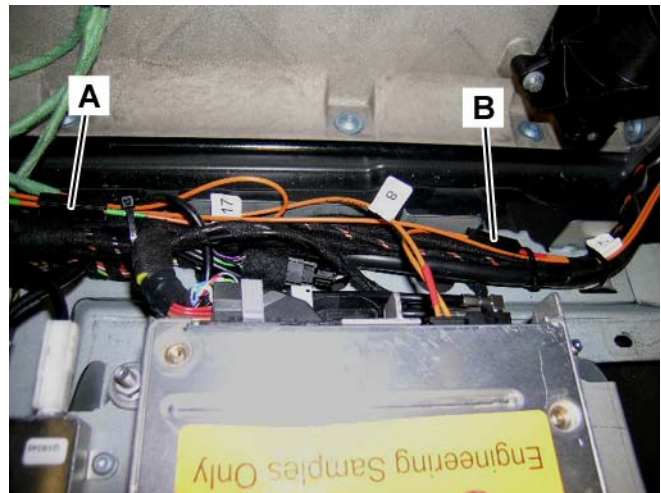
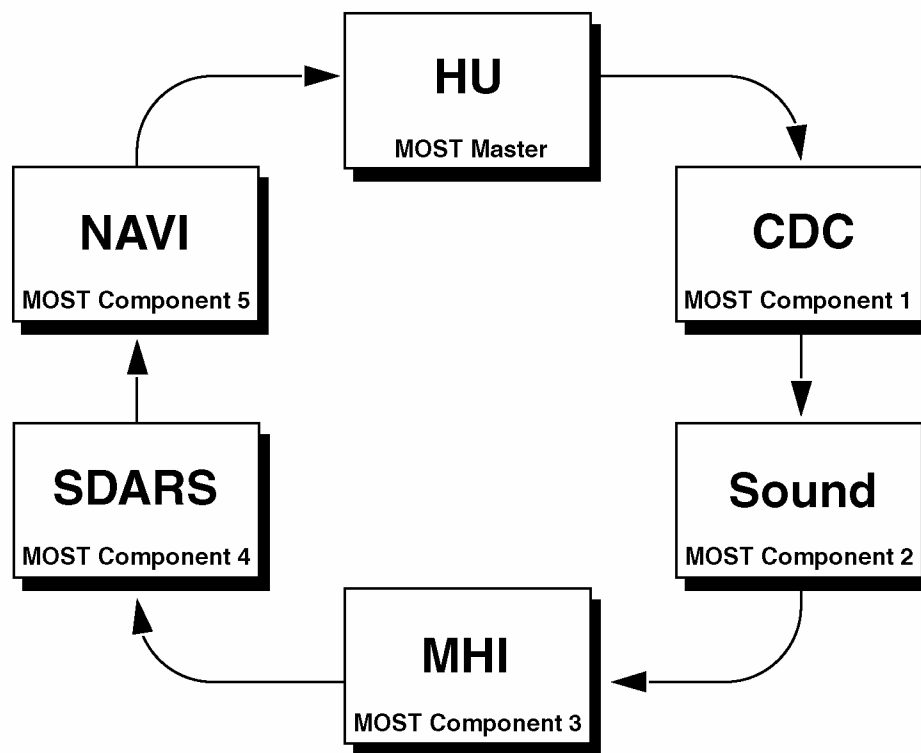

Figure 26
Figure 28
3. Find and disassemble the SDARS optical fiber couplings (A and B, Figure 26) and configure the MOST ring according to Figure 28.
2. Set the MOST ring configuration to match that of Figure 28 via path:
Note: The MOST ring configuration in Figure 28 is an example of a configuration including every component. Some installations will not include all the components shown in the example. If a component is not present, connect the preceding component to the component following the one not present.
Match the MOST ring configuration to Figure 28.
Failure to have the configuration match Figure 28 will result in erroneous system operation and/or intermittent malfunctioning of some or all components in the ring.
DO NOT alter the configuration in Figure 28 to match the vehicle configuration.